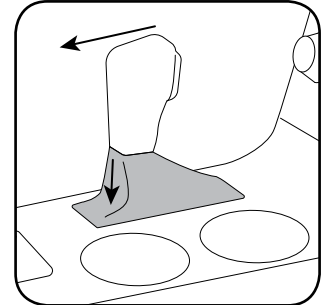

Fig. 1.2
2. Engage the parking brake. Place shifter into the furthest back position and pull down the shift boot. (Fig. 1.2)